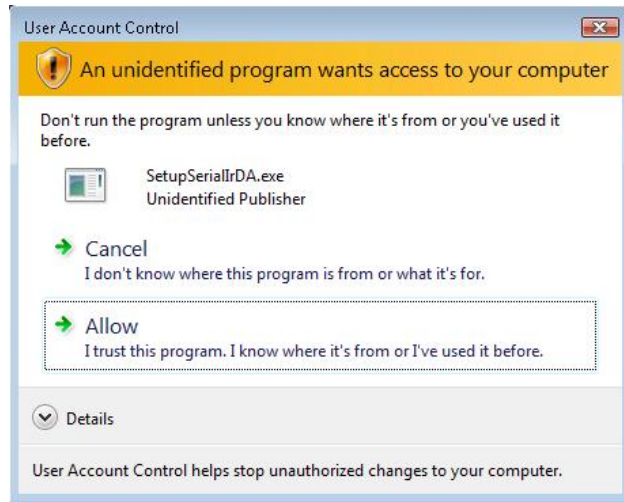

Figure 5.24
2. Choose **Allow** in Figure 5.24 to continue the installation.